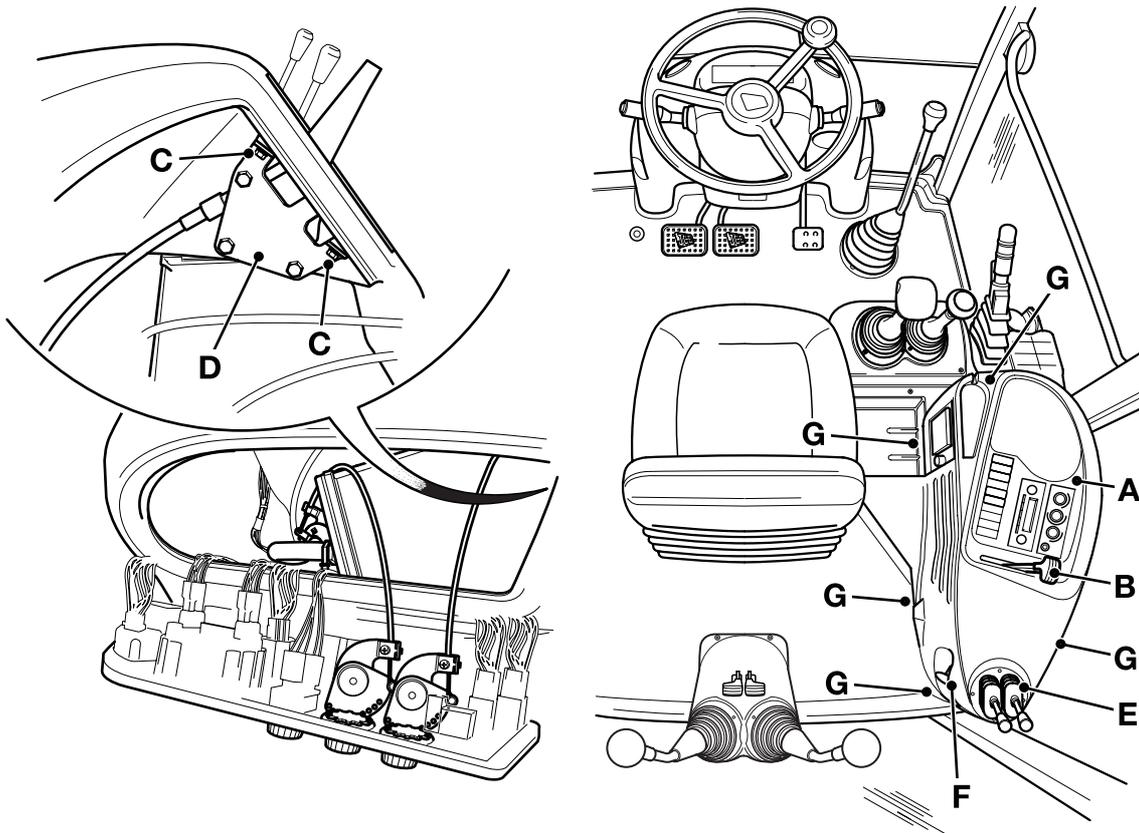

Fig 16. Side Console
- 3 → Fig 16. (□ B-59). Working in the cab, remove the fixing **A** at the top of the instrument panel and carefully lift the panel forward to reveal the connections at the back as shown.